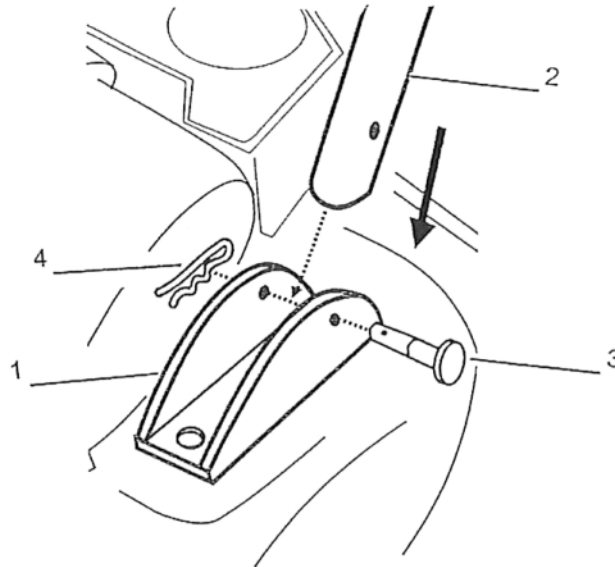

Figure 3
1. Mount the lower handle on the handle brackets with two (2) clevis and cotter pins. (Fig 3).